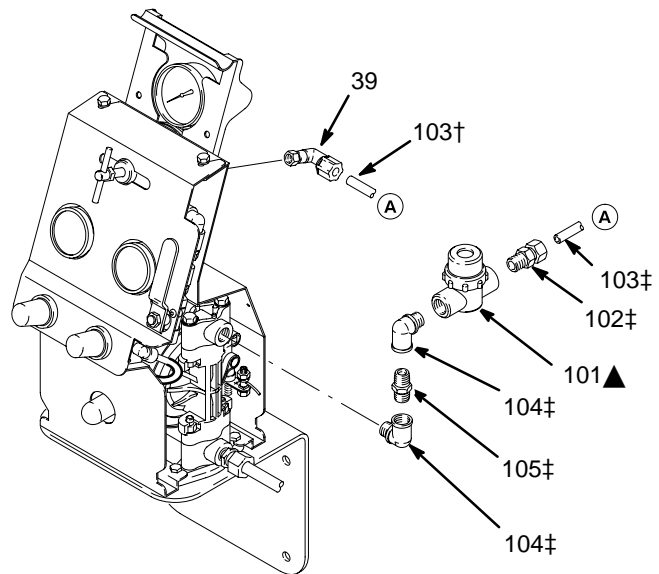

Fig. 3
The Fluid Filter Kit, listed above, can be installed to filter fluid drawn by the suction tube after it comes out of the pump. Install the Fluid Filter Kit as follows (see Fig. 3):
1. Apply thread sealant (specified in Fig. 3) to all male threads in this kit.
2. Remove the elbow (40) from the pump outlet, and remove the tube (16). See the **Parts** drawing on page 11.
3. Thread one the elbows (104) into the pump outlet.
4. Assemble the nipple (105) and the other elbow (104)
5. Thread the nipple (105), with the elbow (104) attached to it, into the elbow (104) that you threaded into the pump outlet.
6. Thread the fluid filter (101) onto the male threads of the elbow (104).
7. Thread the male connector (102) into the fluid filter (101).
8. Turn the fluid filter/male connector assembly towards the elbow (39). This makes connecting the tube (103) in step 9 easier.
9. Cut the PTFE tube (103) to the proper length, and install it to run from the male connector (102) to the elbow (39).